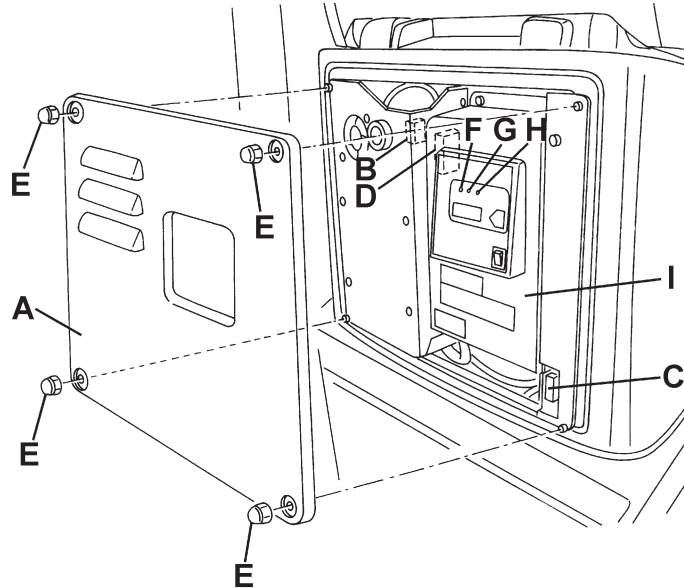

Figure 7
4. If the red warning light (F, Fig. 7) on the battery charger control panel stays on, the battery charger is charging the batteries.
5. When the green warning light (H) turns on, the battery charging is completed.
6. When the battery charging is completed, disconnect the battery charger cable (8) from the electrical mains and wind it round its housing (7).
- Carefully lower the tank assembly (71).
1. Turn the ignition key (41) to "0".
2. Remove the nuts (E, Fig. 7), then remove the cover (A).